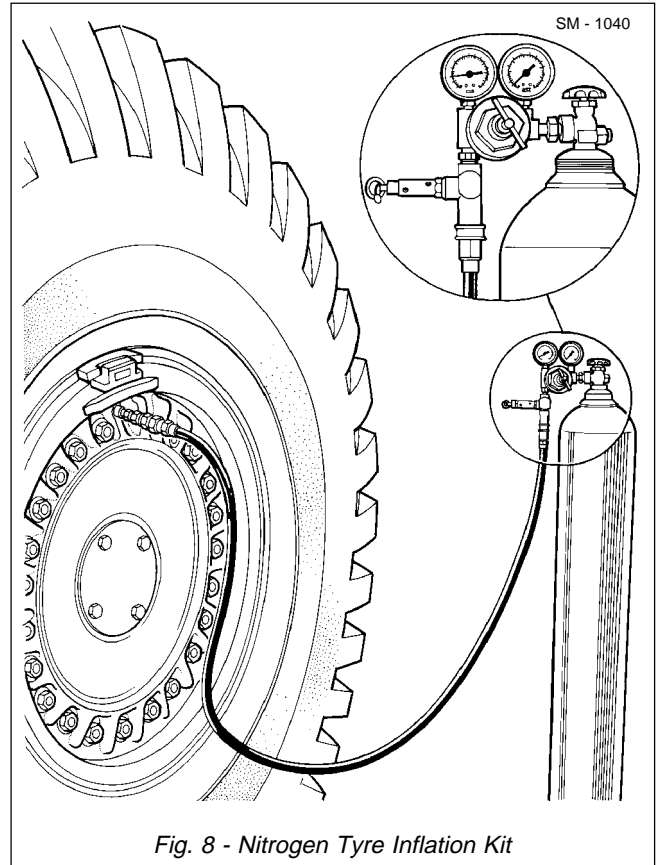

Fig. 8 - Nitrogen Tyre Inflation Kit
1. A nitrogen tyre inflation kit is available from your dealer and consists of the following. Refer to Fig. 8.